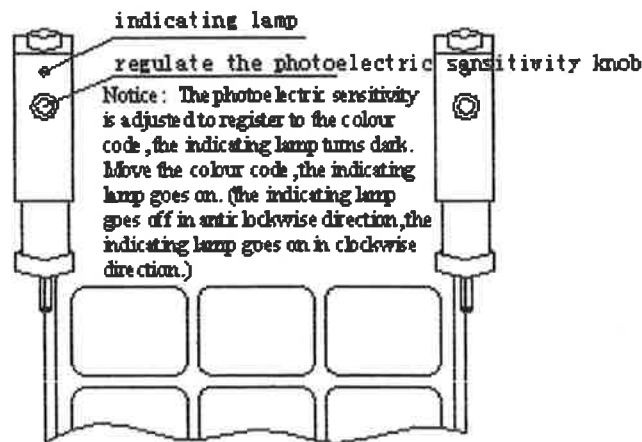

Figure 3
(6) First set well for the sensitivity of “Manual/Auto” photoelectric (See Figure 3) to register the sides of paper, and select the double or single photoelectric. And then turn on the Auto, if the rectifying moves along to one side; please switch the BLACK and WHITE.